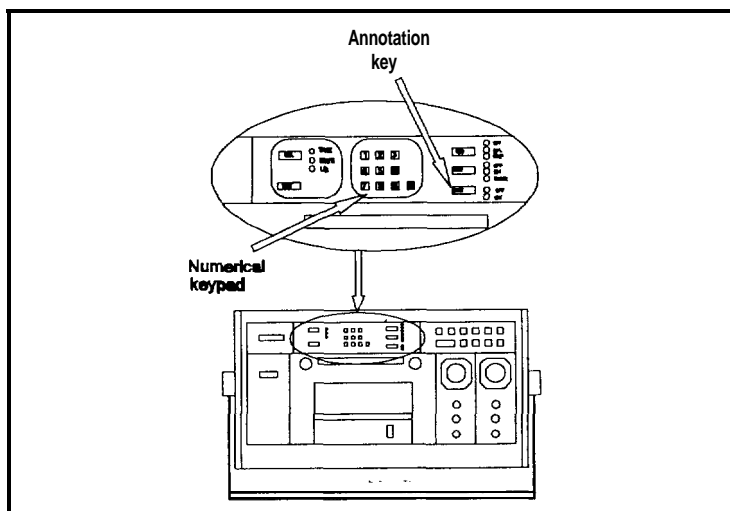

Figure 7
2.2.7 Annotation - Pressing the ANNOT key until the ON indicator lights activates the annotation function as shown in Figure 7. The annotation function comprises chart speed, page number, time, date, channel number, I.D. message, and signal conditioner status. The chart speed and page number print on the left edge of the chart. The time, date, channel number, I.D. message, and signal conditioner status print on the right edge of the chart.